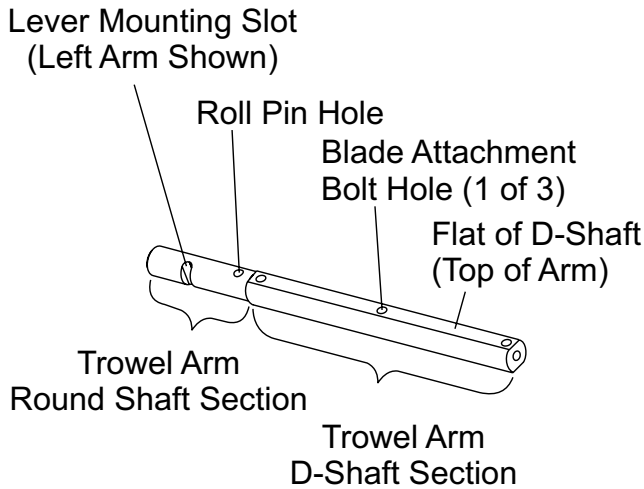
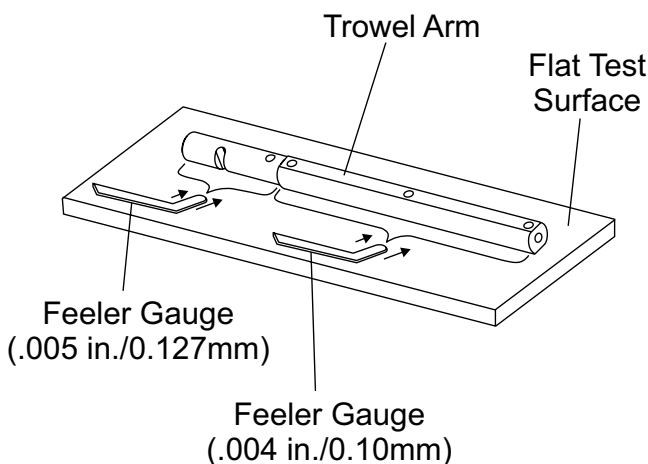

Figure 42. Trowel Arm
Figure 43. Checking Trowel Arm Flatness
Trowel arms can be damaged by rough handling, (such as dropping the trowel on the pad), or by striking exposed plumbing, forms, or rebar while in operation. A bent trowel arm will not allow the trowel to operate in a smooth fluid rotation. If bent trowel arms are suspect, check for flatness as follows, refer to Figure 42 and Figure 43:
2. Check each of the six sides of the trowel arm (hex section). A feeler gauge of .004" (0.10 mm) should not pass between the flat of the trowel arm and the test surface along its length on the test surface. (Figure 43).
3. Attach the blade tie-downs to the far side of the Z-Clip brackets with tie-down knobs as shown in figure 42.